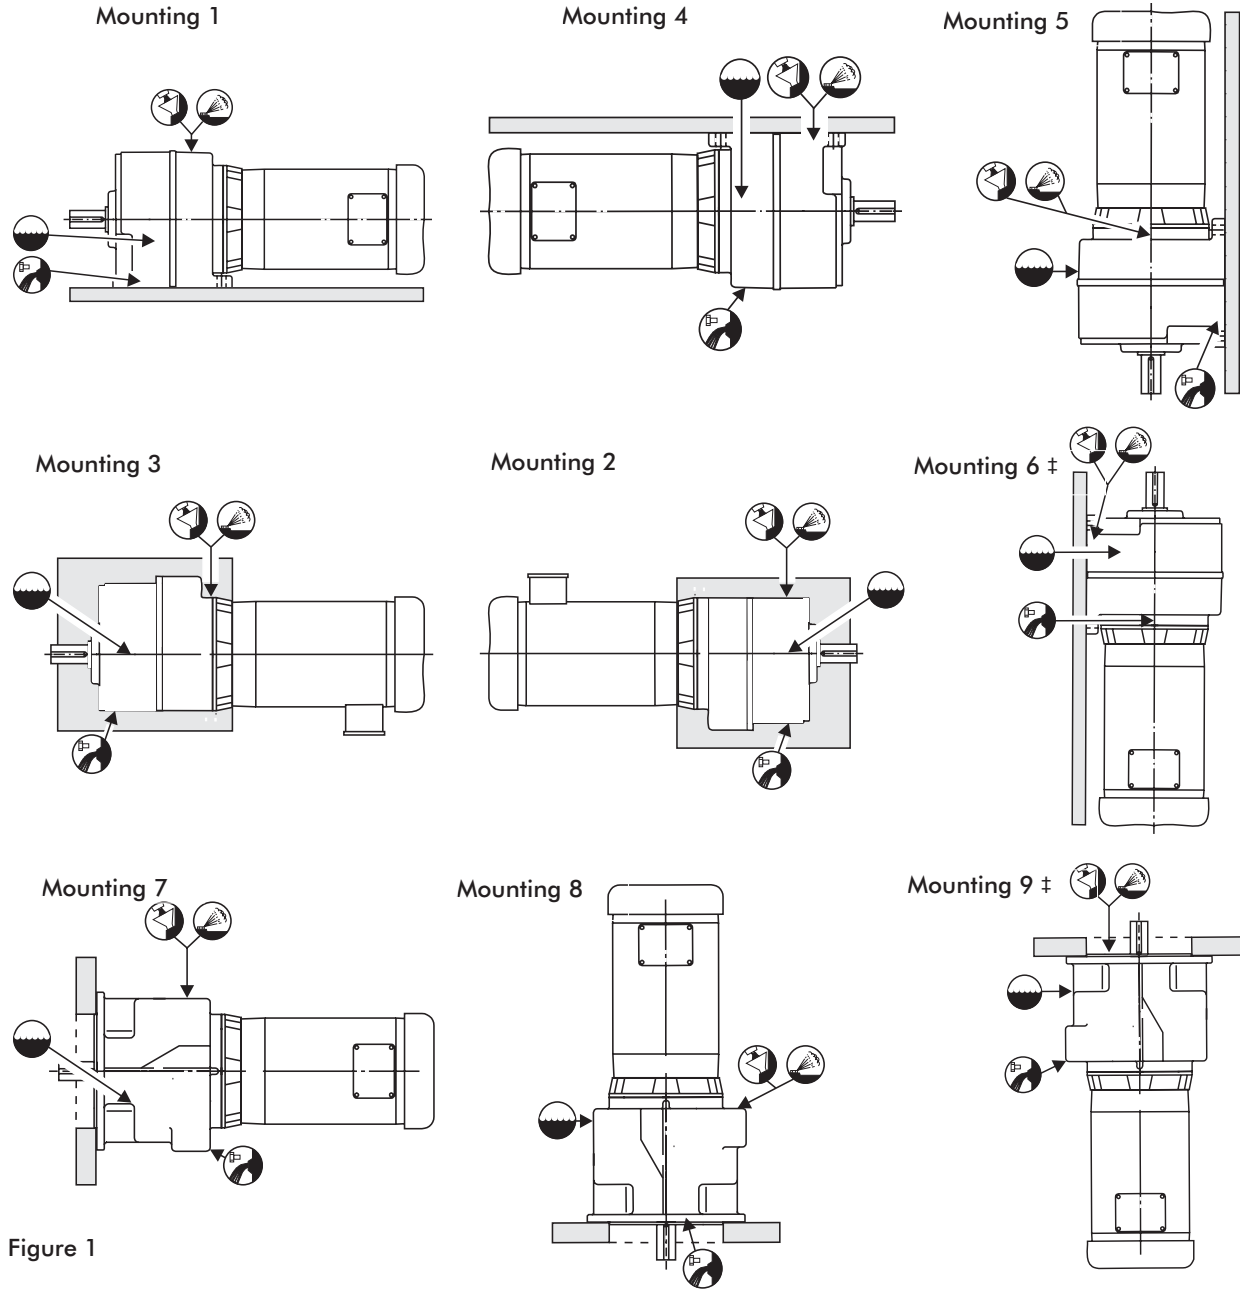

Figure 1
**MOUNTING** (Figure 1, Page 2) — **Sizes 03 and 04** are lubricated for life and will be furnished filled with an EP (extreme pressure) mineral lubricant to the appropriate level determined by the mounting position ordered. Synthetic EP lubricants will be furnished upon request at an extra charge. **Sizes 06 thru 14** are furnished without oil. Refer to Table 3, Page 4 for a list of typical lubricants meeting Rexnord specifications. Fill drives to the oil level plug. Refer to Table 4, Page 5 for the approximate quantities of oil by the drive mounting position. Refer to Figure 1, Page 2 for the placement of the vent, drain and oil level plugs based on the drive mounting position.